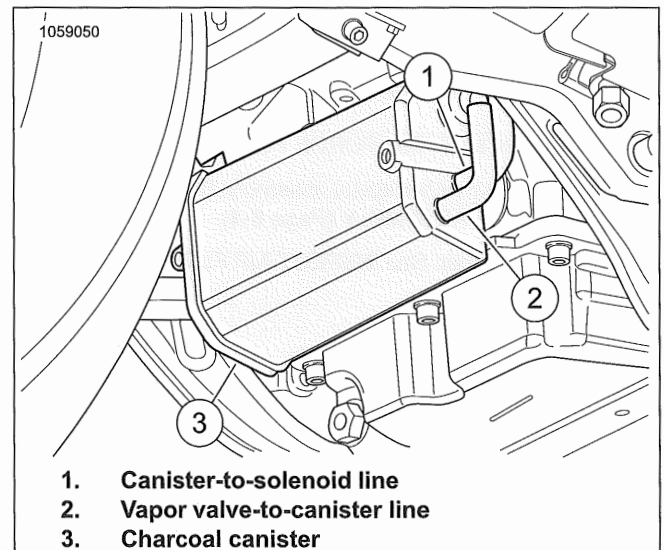
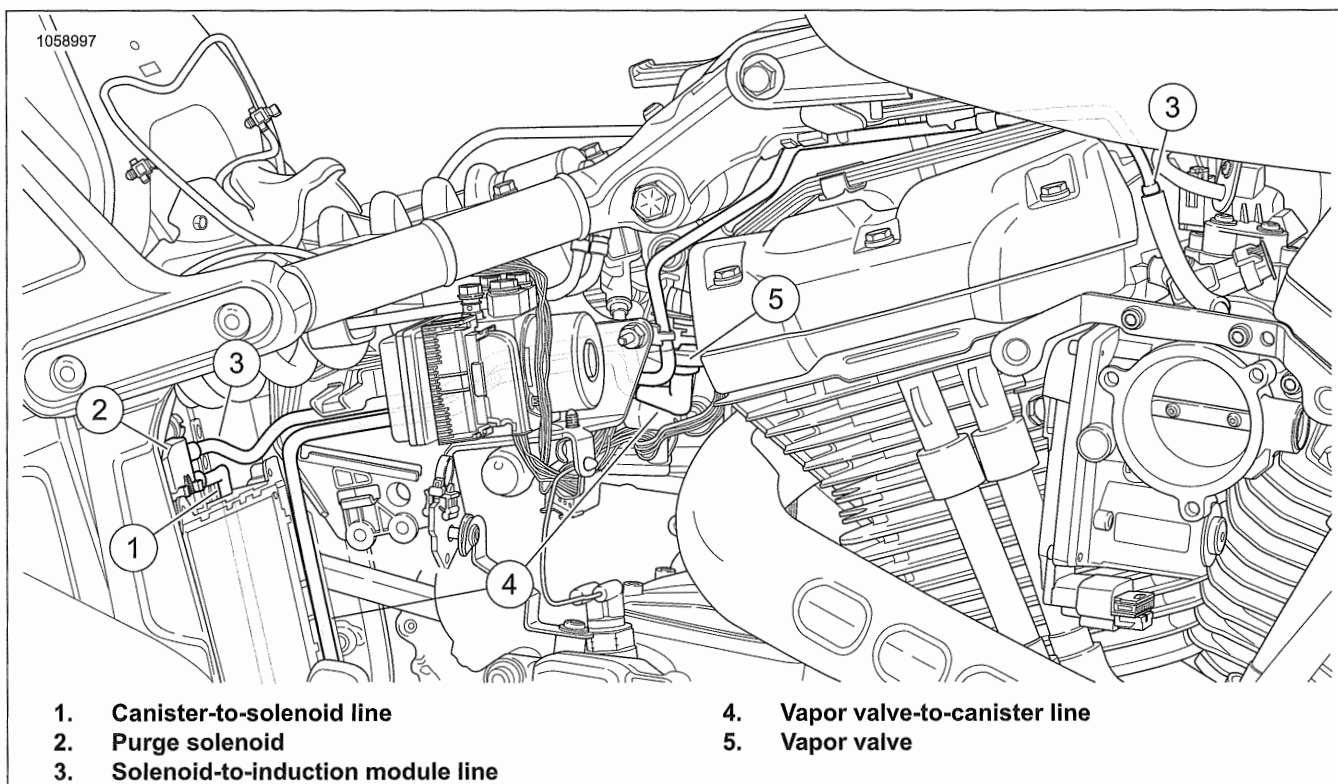

Figure 6-49. Purge Lines at Canister
Figure 6-50. Purge Lines
- a. See Figure 6-50. Disconnect vapor valve-to-canister line (4) from vapor valve (5).
- b. See Figure 6-49. Disconnect vapor valve-to-canister line (2) from charcoal canister (3).
- a. Disconnect canister-to-solenoid line (1) from charcoal canister (3).
- b. See Figure 6-50. Disconnect canister-to-solenoid line (1) from purge solenoid (2).
- a. Remove solenoid-to-induction module line (3) from purge solenoid (2).
- a. See Figure 6-49. Install vapor valve-to-canister line (4) to charcoal canister (3).
- b. See Figure 6-50. Install valve-to-canister line to vapor valve (5).
- a. See Figure 6-49. Install canister-to-solenoid line (1) to charcoal canister (3).
- b. See Figure 6-50. Install canister-to-solenoid line to purge solenoid (2).
- a. Install solenoid-to-induction module line (3) to induction module.
- b. Install solenoid-to-induction module line to purge solenoid (2).